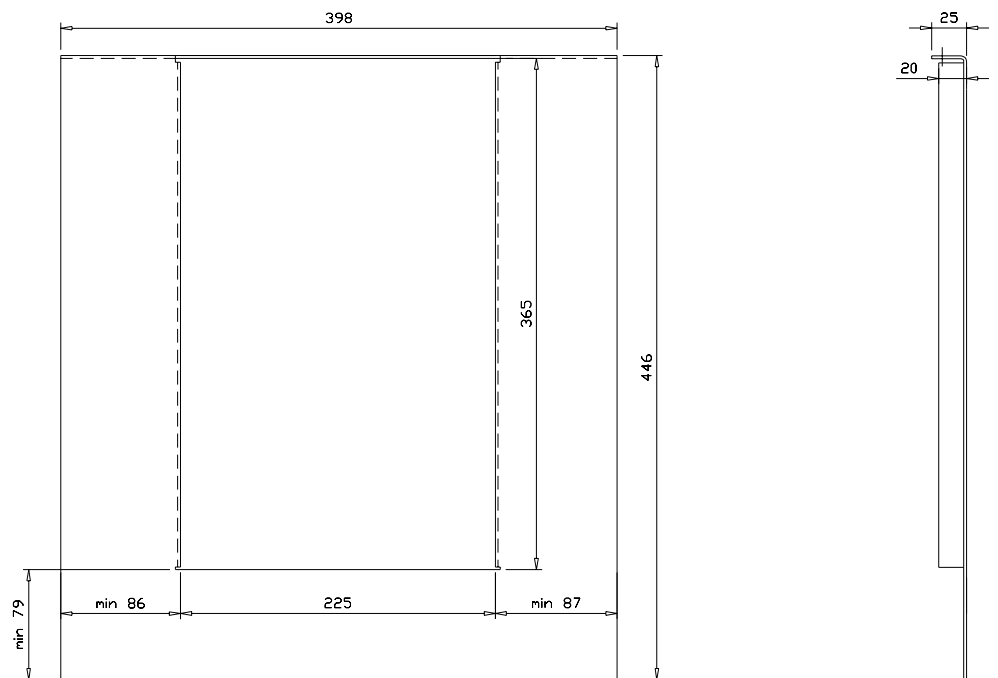

Figure 2-4 Air baffle for Frame B2 supply module.
**Frame B2** Frame B2 supply modules are fixed to the rear wall of the cabinet with four screws. An air baffle must be used to prevent air from circulating inside the cabinet. The baffle should be strong enough to support the weight of the module in order to facilitate the mounting; Figure 2-4 shows a suitable design. The input and output connections (located at the bottom and top of the module respectively) are made using busbars.